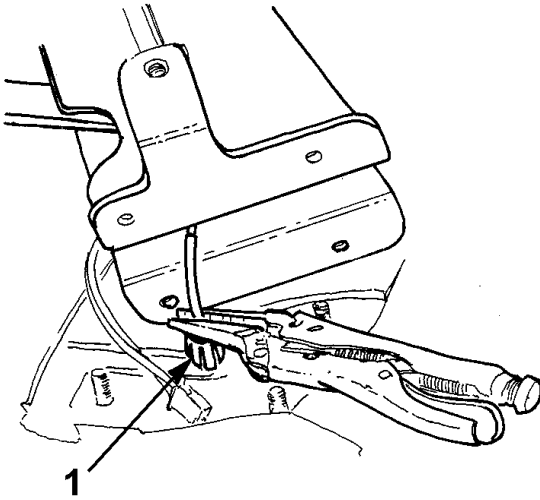

Figure 6 Securing Brake Cable
- a. To maintain tension on cable use small vice grip to hold cable in place (Figure 6).